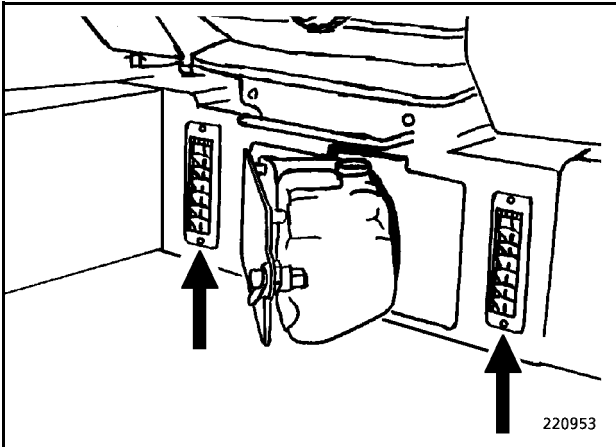

Fig. 3
- Close the outlets under the driver's seat (Fig. 3).